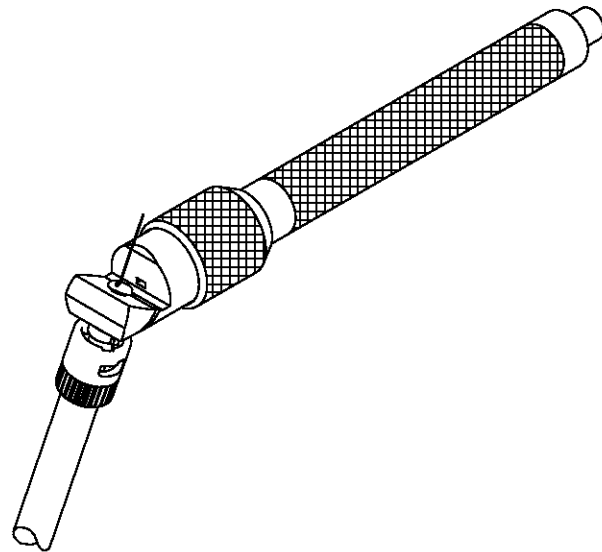

Figure 13
1. Insert the connector into the automatic cleave tool (AMP Cleave Tool 502700-2) from the side, so that the protruding fiber is guided through the slot in the tool. See Figure 13.